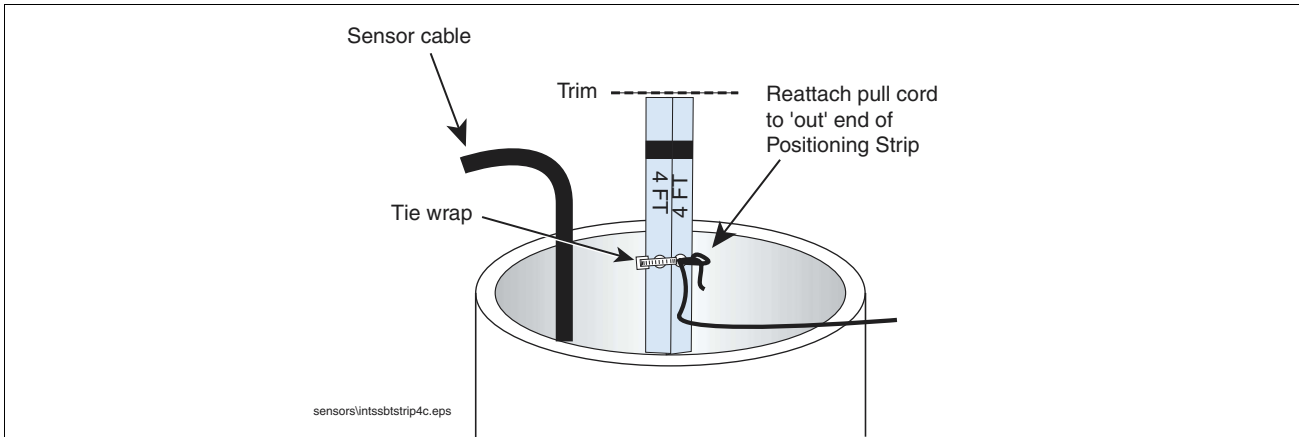

Figure 7.
- For 4-, 6-, and 8-foot diameter tank installations, trim off the two ends of the Calibrated Sensor Positioning Strip above the matched markers. **IMPORTANT! Be sure to reattach the pull cord in the hole below the marker on the 'out' end of the strip** (Figure 7). Attach a tie wrap through the two aligned holes to keep the sensor in its correct position.